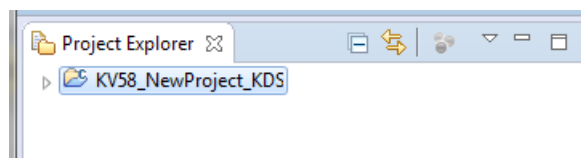

Figure 1-3. Project Explorer
7. In the Project Explorer dialog, right-click the newly-imported project KV58_NewProject_KDS and select Rename. See Figure 1-3.